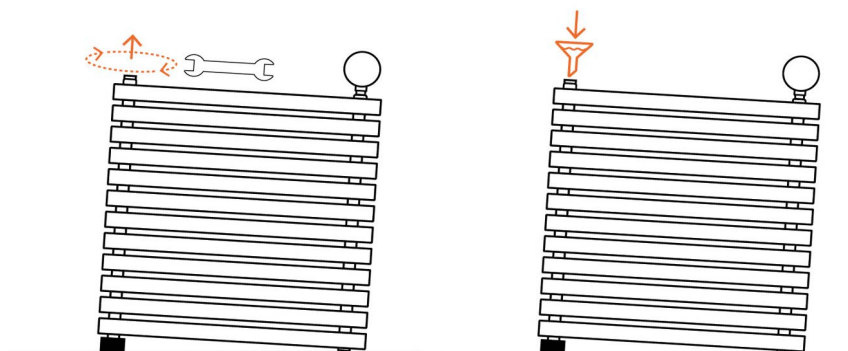
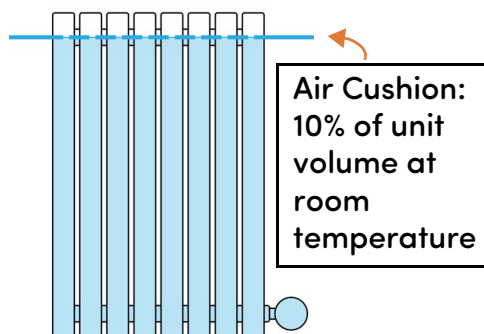

Figure 5 | Removing radiator cap and using funnel to fill
Figure 6 | Air cushion (for illustrative purposes only)
- If the radiator has been pre-filled by the manufacturer, skip to the next step. If the radiator is yet to be filled, tilt the radiator so the next free filling cap is at the highest point. Remove the cap and fill the radiator to 90% of its volume with a suitable heating medium (**Figure 5 & Figure 6**). This should be a glycol-based formulation approved by the radiator manufacturer. Replace cap when done.